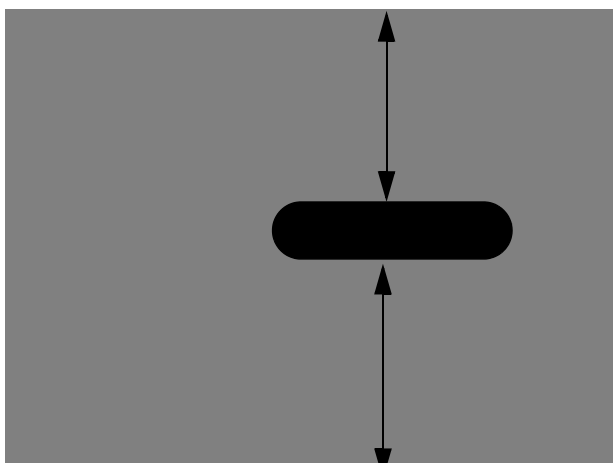

Fig. 23: Image
- Make an exposure using the collimator-mounted phantom, RCC, 28 kV, 5mAs, Mo/Mo. The image shows a “dark shadow” in the center (Fig. 23 / p. 46). The limits (left/right) of this “dark shadow” must be the same distance from the image edges. Increasing the filter offset value moves the “shadow” to the right, and decreasing the filter offset value moves the “shadow” to the left. The difference between both sides should not exceed 2 mm.